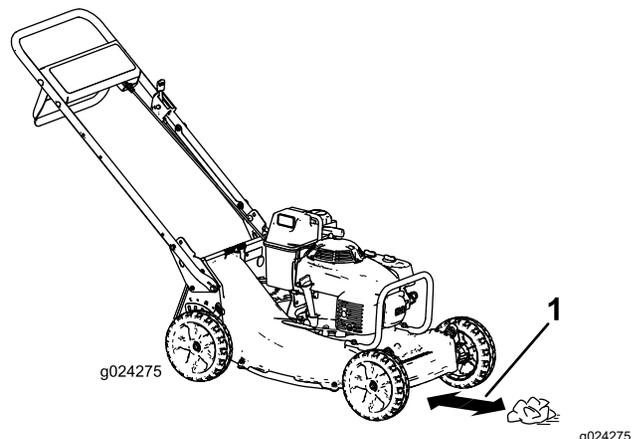

Figure 20
4. Place the newspaper ball about 13 cm (5 inches) in front of the machine (Figure 20).